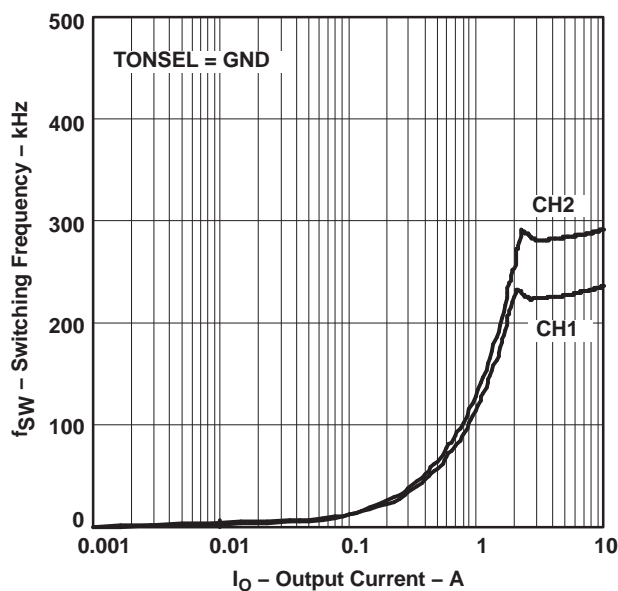

Figure 9. (2)
(2) The data of Figure 9–Figure 12 are measured from the Typical Application Circuit of Figure 25 and Table 2.